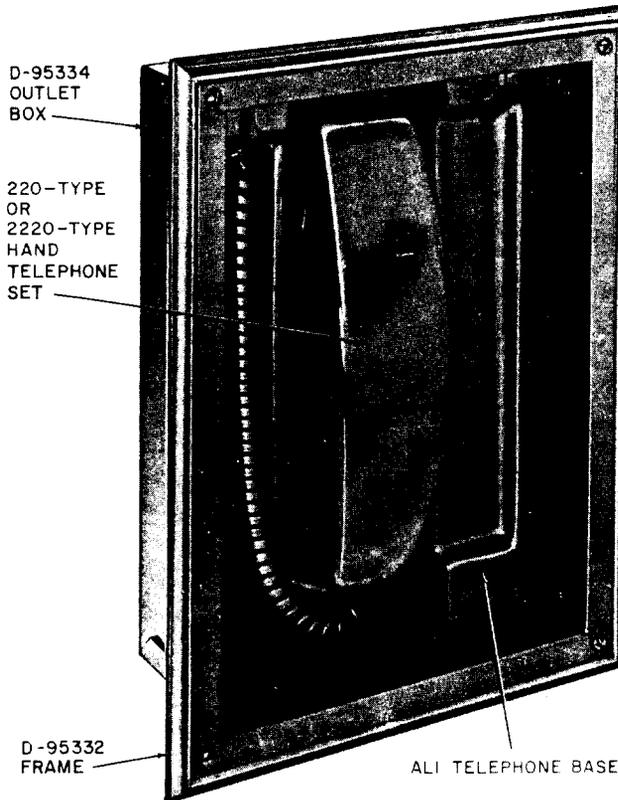

Fig. 1—AL1 Telephone Base and Hand Telephone Set Installed in Outlet Box
- 2.01** The AL1 (Fig. 1) is a flush-mounted, wall type telephone base designed to be used in elevators. It may also be used in corridors and in building entrances. The AL1 telephone base is available in black (-03) only.
- 3.11** The frame is shown in Fig. 1.
- 3.12** The frame attaches to the outlet box with four 9/32-inch by 6-32 oval head brass machine screws that are furnished with the frame (Fig. 1).